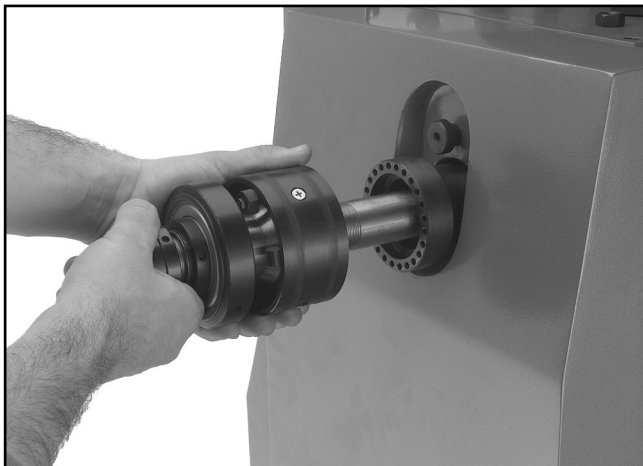

Figure 6. Inserting draw tube assembly.
1. Insert the draw tube assembly into the out-board spindle as shown in **Figure 6**.